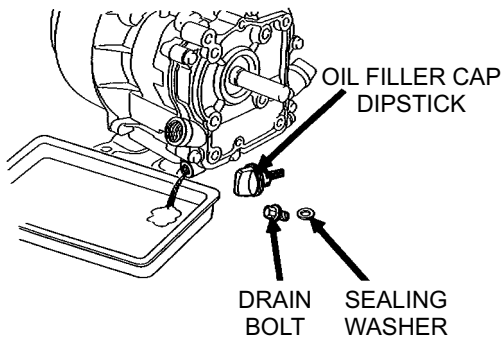

Figure 24. Draining Engine Oil
1. Drain the engine oil when the oil is warm as shown in (Figure 24).